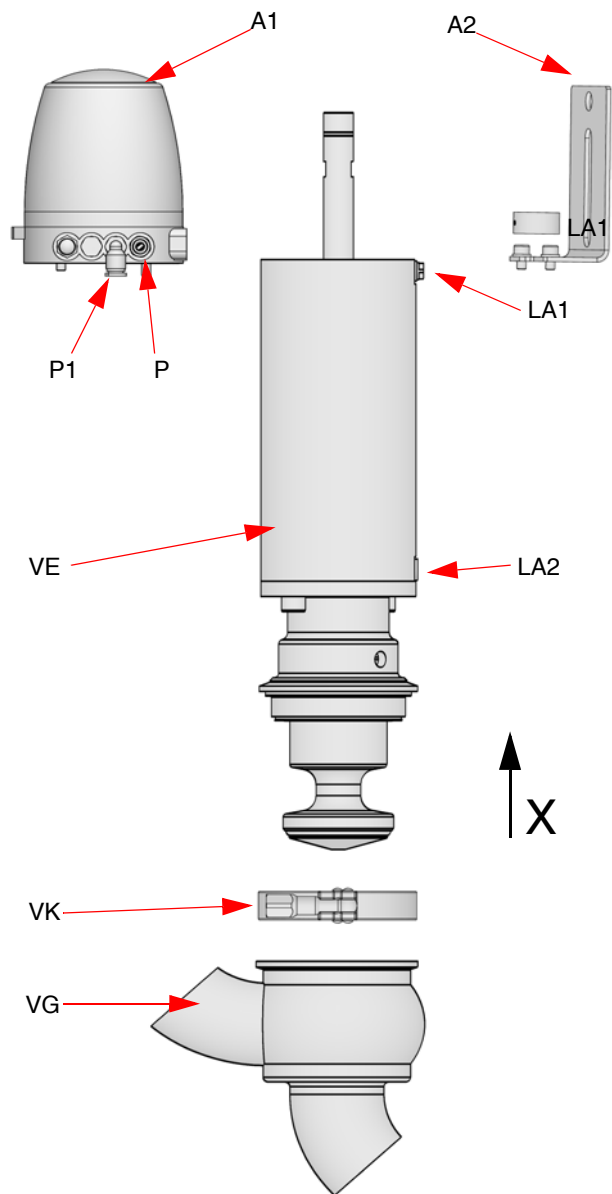

Fig. 3
- Pneumatically open the valve, so that upstroke the piston (1) in direction X (Fig. 3 /Page 9).
- Remove the retaining clamp (VK).